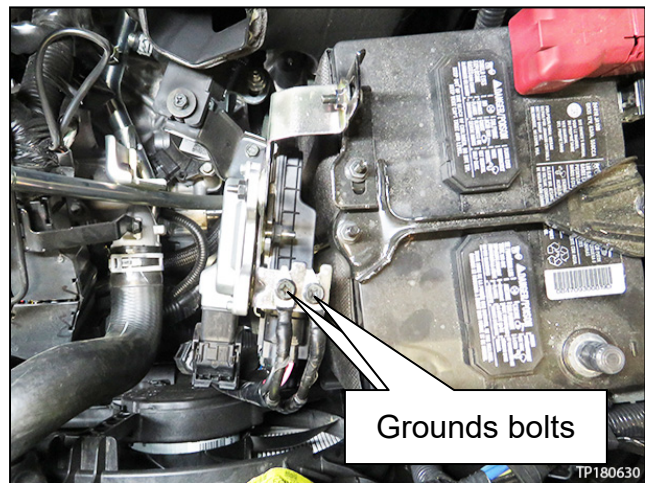

Figure 17
27. Install ground bolts shown in Figure 17.